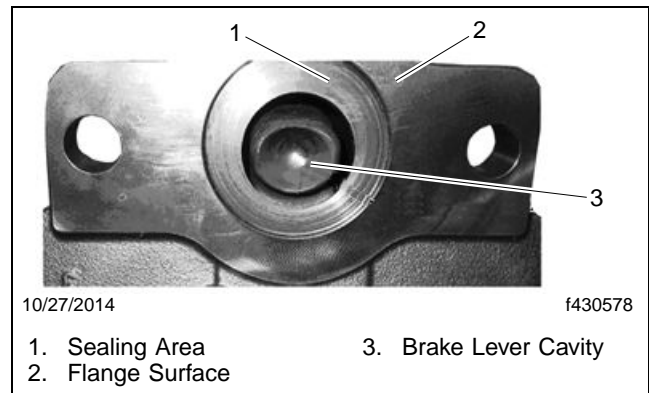

Fig. 15, Cleaning the Brake Caliper
42. Clean the sealing area and the brake chamber flange surface of the brake caliper. Ensure that dirt or moisture do not enter the brake while cleaning. See **Fig. 15**.
43. Grease the cavity of the brake lever. See **Fig. 15**.